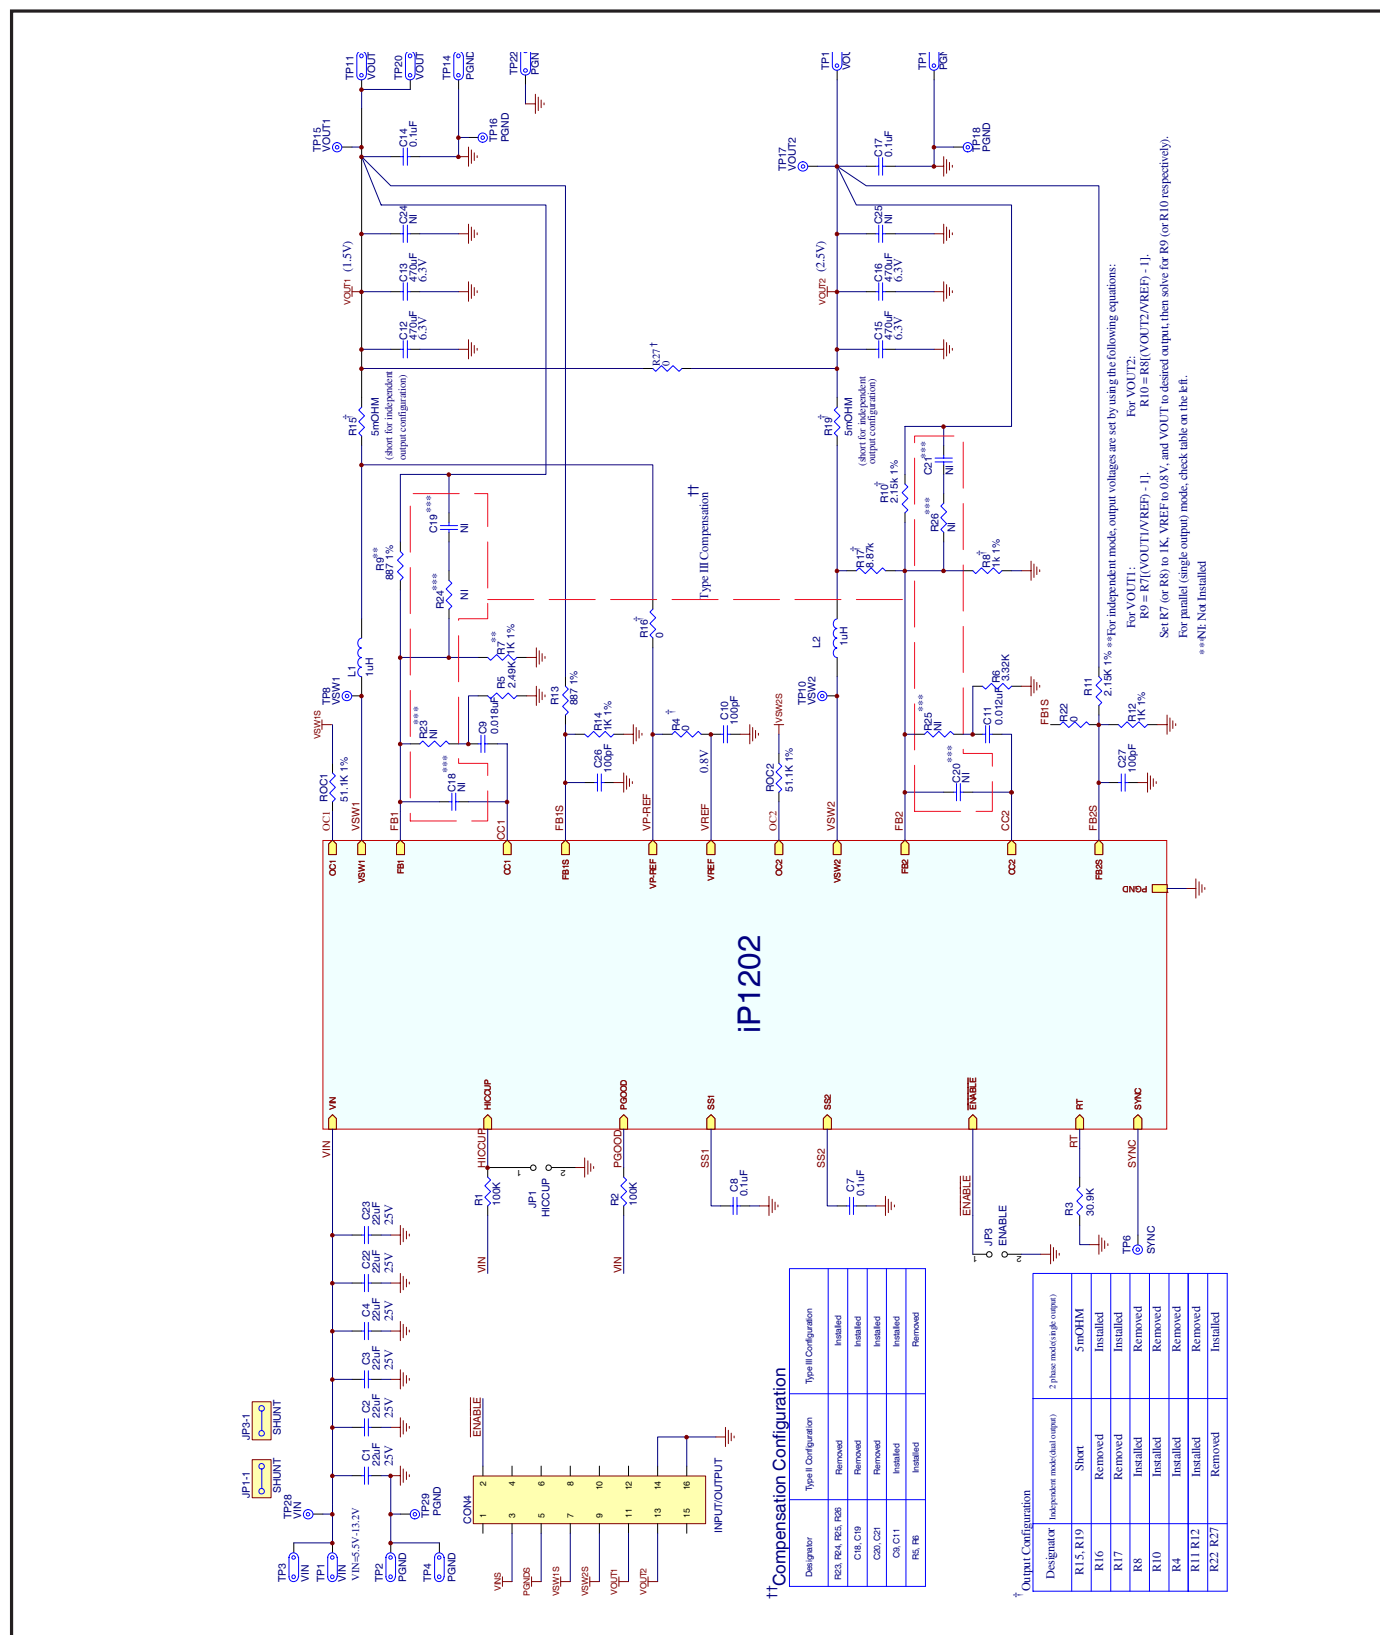

Fig. 32: Reference Design Schematic
1. Follow the layout scheme presented in Fig. 32. Make sure that the output inductors L1 and L2 are placed as close to iP1202 as possible to prevent noise propagation that can be caused by switching of power at the switching node V_{sw}, to sensitive circuits.